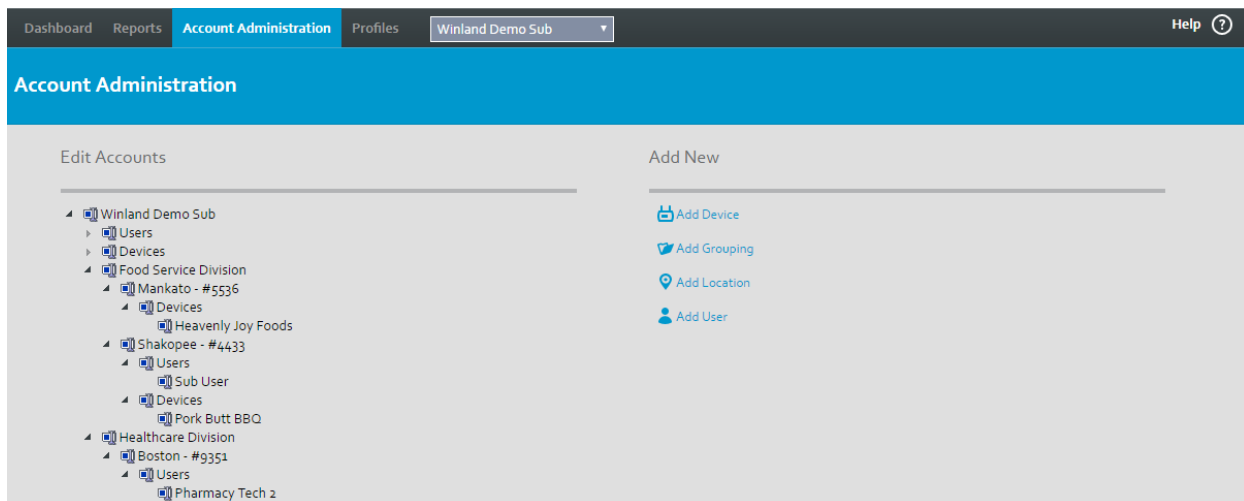

Figure 4-6. Account Administration—Edit Accounts
- To manage User IDs, devices, and sensors for a specific customer, click the customer name in the Choose a Customer section. From the account tree in the Edit Accounts section (Figure 4-6), you can manage users, devices, locations, and groupings. In the Add New section, you can add new devices, groupings, locations, and users.